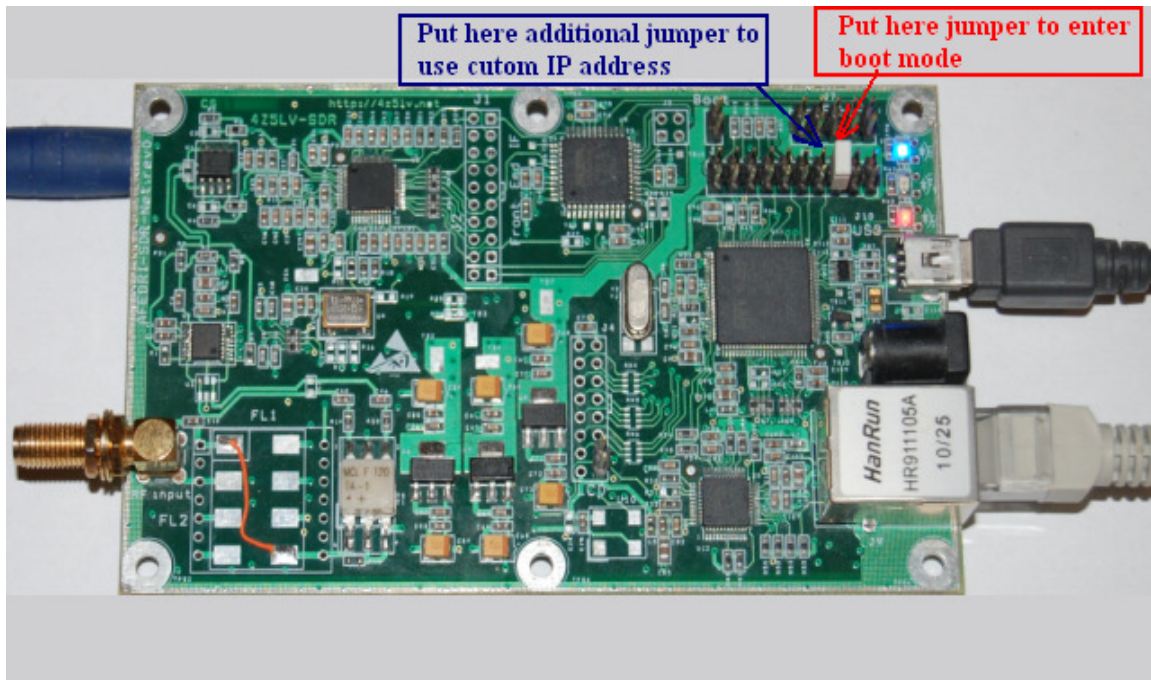

Figure 7 AFEDRI SDR-Net boot-mode jumper position on JTAG (P1) connector, for firmware upgrade mode
- 3.1.1. Set jumper between pins 5 and 6 of JTAG connector P1 (see Figure.7). If you put only this jumper, SDR will have default IP address - 192.168.0.8.